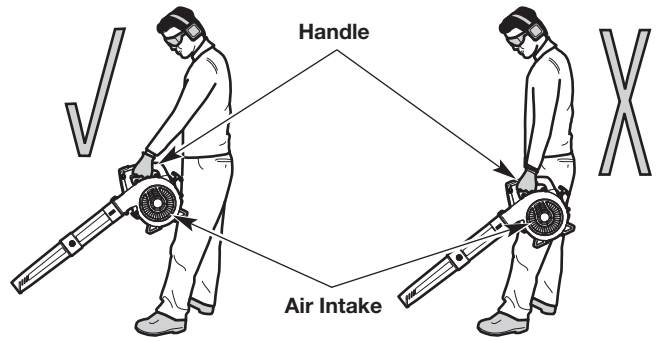

Fig. 13
- Stand in the operating position (Fig. 13). Stand up straight. Do not bend over.
- Hold the unit in front of, and away from, your body (Fig. 13).
WARNING: To prevent serious personal injury or damage to the unit, **DO NOT** hold the unit at your side (Fig. 13). The engine may be extremely hot. **DO NOT** block the air intake.